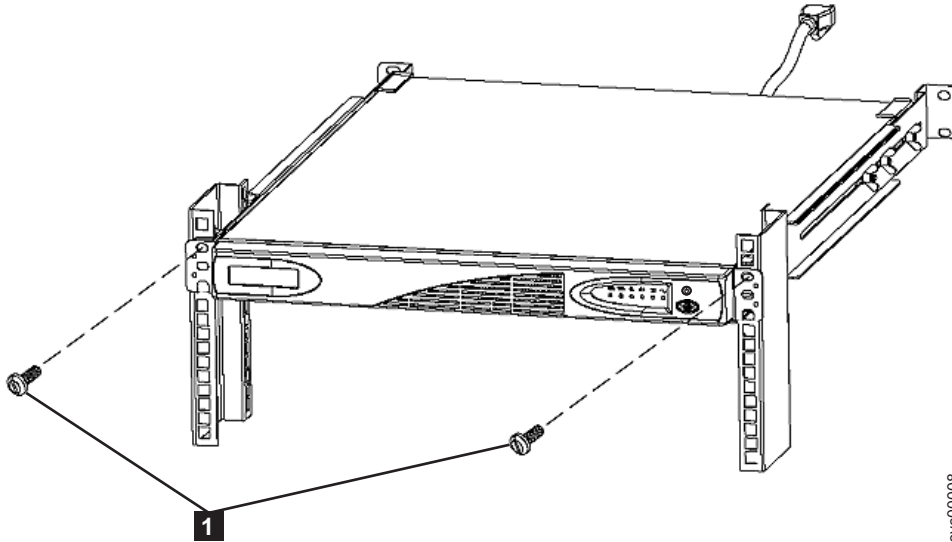

Figure 322. Removing the front screws from the 2145 UPS-1U
1. Loosen and remove the two M6 × 10 screws from each side of the 2145 UPS-1U. See **1** in Figure 322.